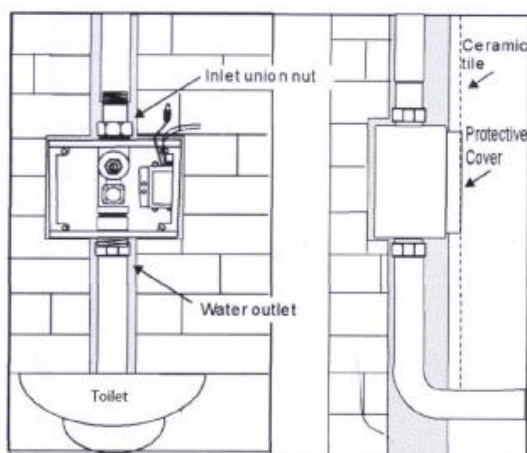

Fig. 1.31: Cleaning of pipeline and screwing inlet union nut
**Step 2:** Clean the impurities and silt from pipeline. Screw down the water inlet nut. (Refer Fig. 1.31)